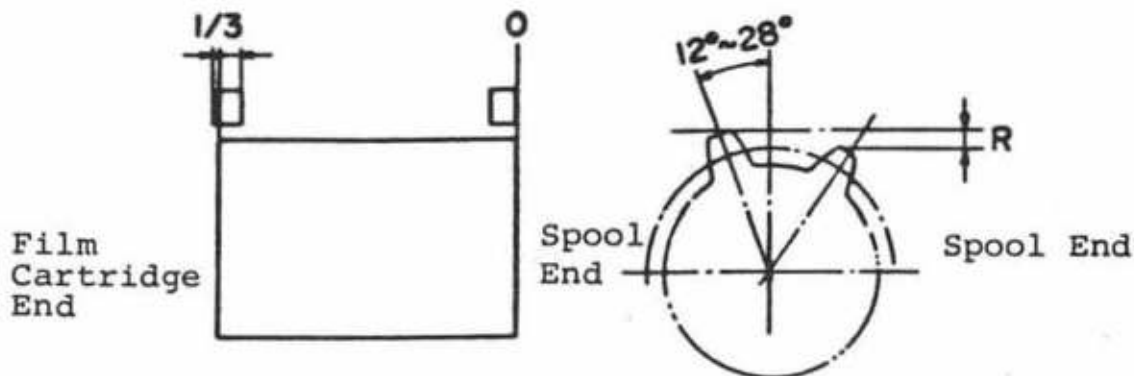

Fig. 2-16
- 3) When correctly positioned, the sprocket gear will be approximately as shown in Fig. 2-16.
3. The perforation position should be as shown in figure 2-16. Readjust, if necessary, as stated in section 2.13.2.